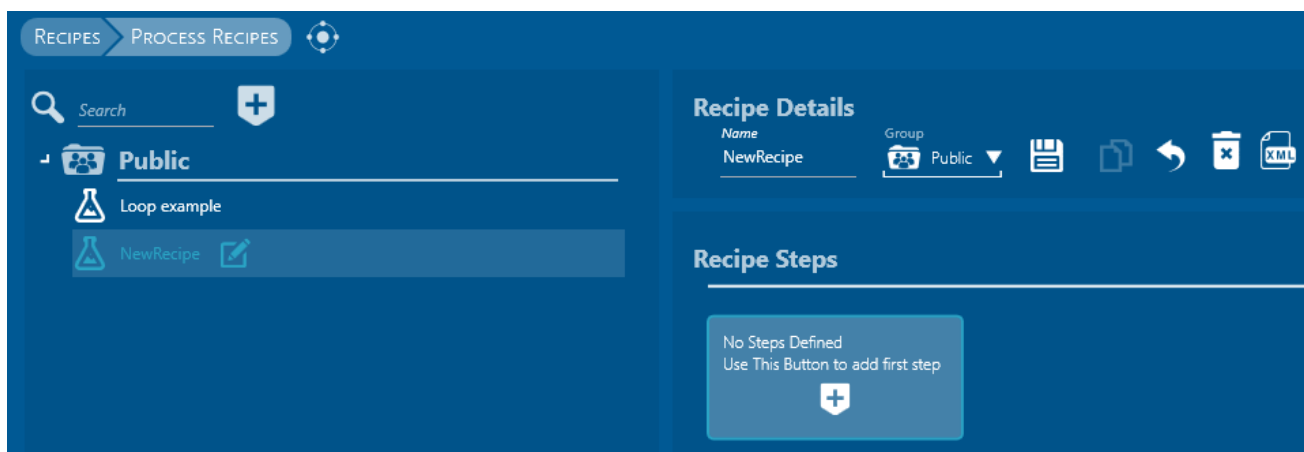

Figure 5-12 New recipe
- 2 Click on the  symbol, then select **Add Process Recipe** in the dropdown menu. A new recipe is created, see Figure 5-12.